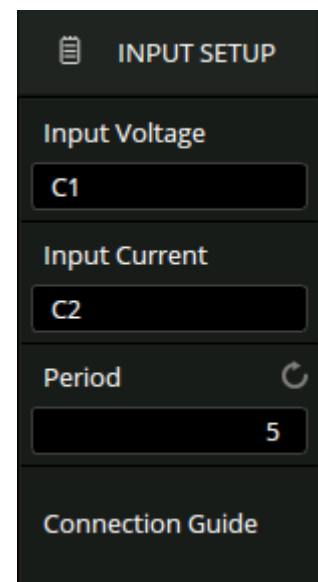

Figure 19.3 Input Setup Menu
1. Touch **Input Setup** to display the signal menu shown in figure 19.3.